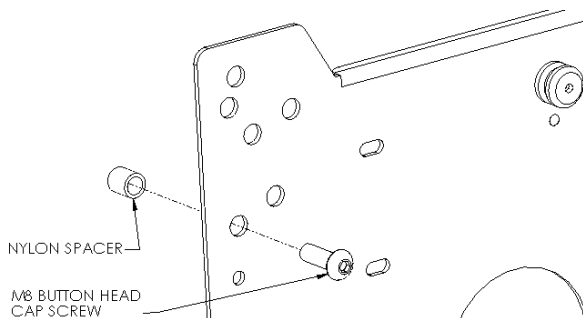
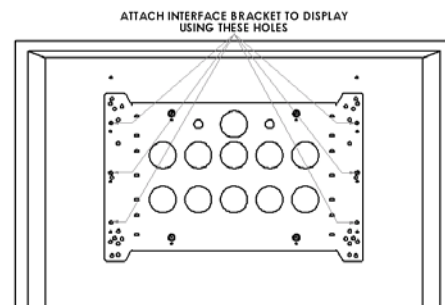

Figure 4
Figure 5
2. Place Nylon spacers over mounting holes on back of screen. Attach mounting brackets to the display using the M8 button head cap screws (see Figure 4 & Figure 5).